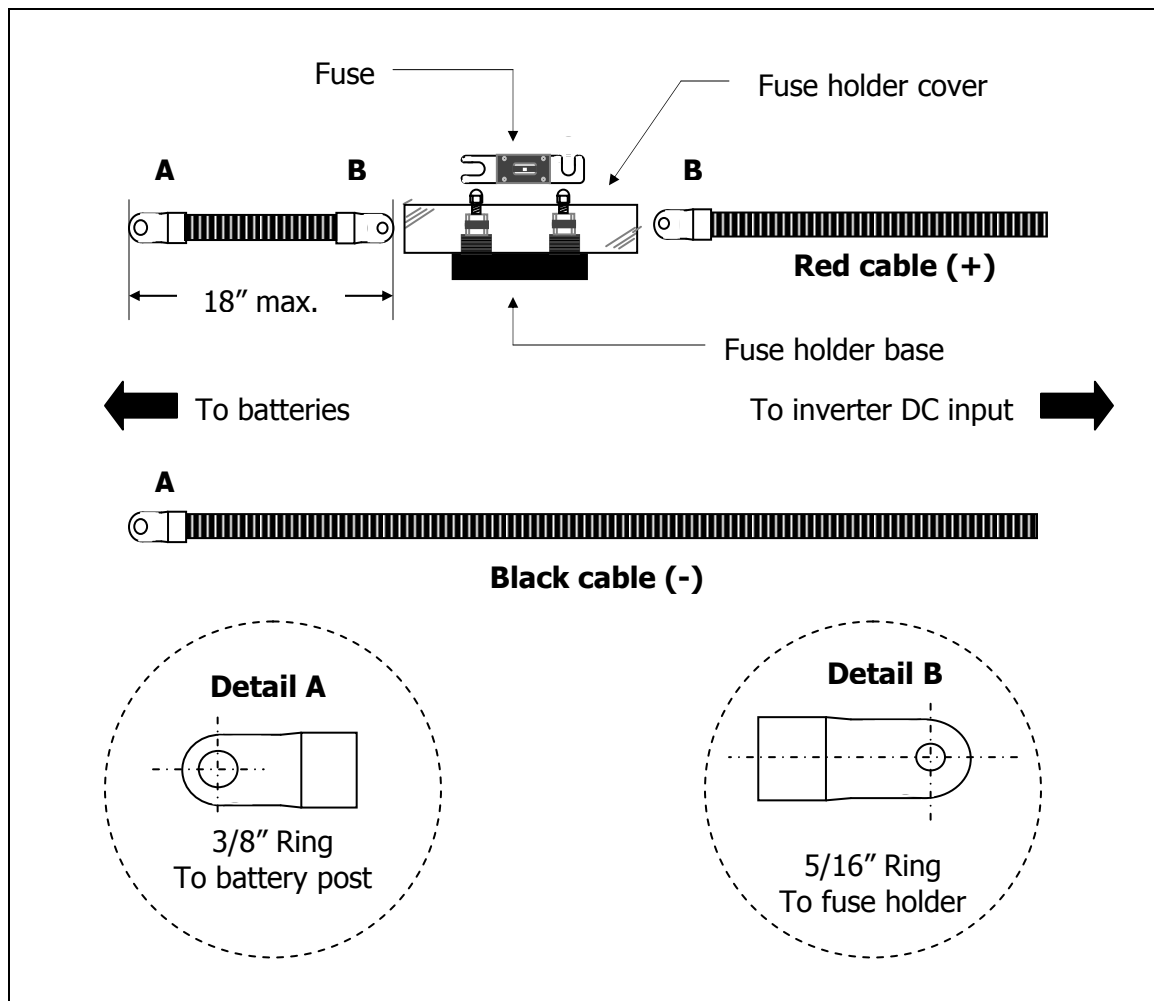

FIGURE 5: Inverter Cable Assembly
a) Battery-to-Inverter Cable: If furnishing your own battery-to-inverter cable see figure 5 below, also see cable and fusing guide charts A and B in appendix section 6, page 21 then follow these steps:
b) Battery-to-alternator cable: Determine your vehicle's alternator output current. If furnishing your own cable, see figure 5 below and also refer to chart C in Appendix section 6, page 21 to determine wire gauge and fuse sizes.